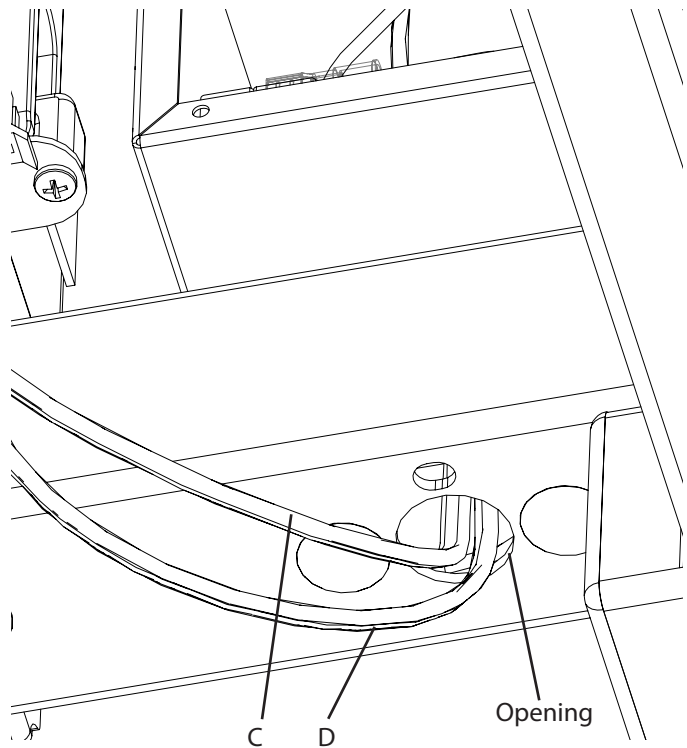

Figure 8: Routing the new charge control and battery harness.
- Route the new charge controller harness(C) and battery harness (D) thru the bottom of the frame rail. (Figure 8)